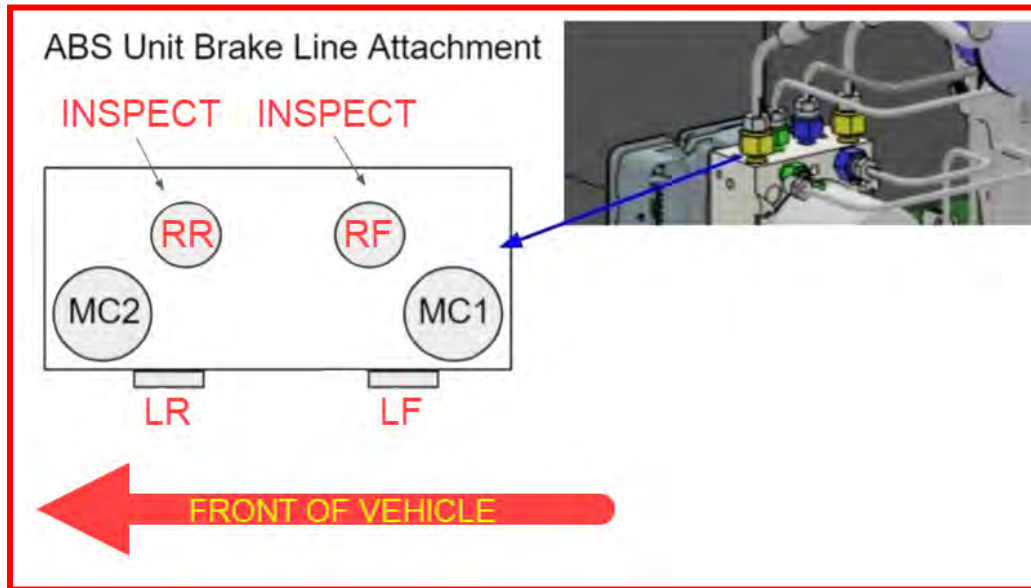

Figure 6 - ABS Assembly & Brake Line Locations
1. Visually inspect the right front brake line at the ABS Assembly. The right front (RF) brake line is the 3rd fitting when counting front-to-back located on the top of the ABS Assembly (Figure 6).